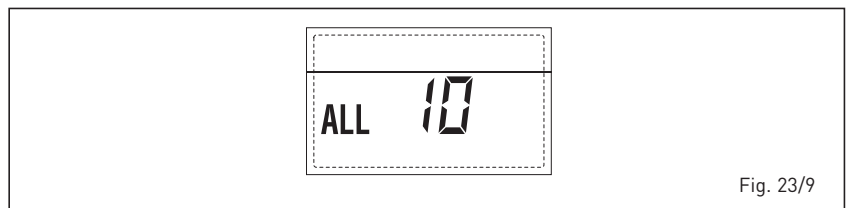

Fig. 23/9
- **ACTIVATION OF THE "ALL 13" EXHAUST TEMPERATURE SENSOR (fig. 23/10)**